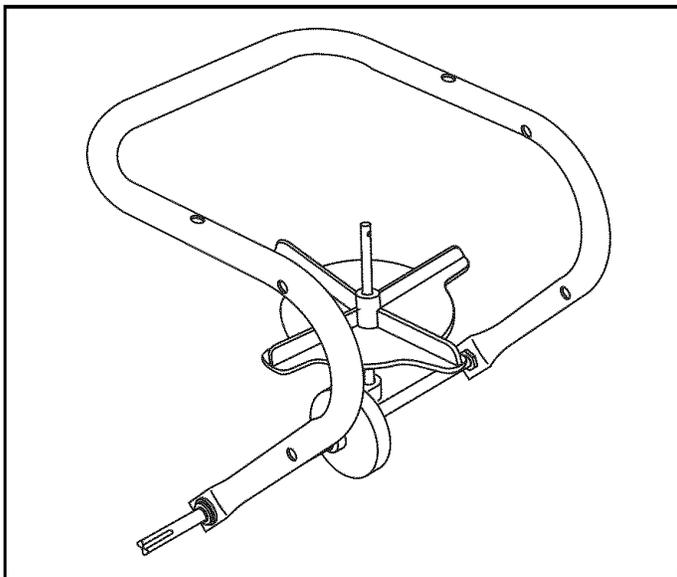

FIGURE 2
- Insert each side of the axle of the impeller assembly into the frame tube. See figure 2.